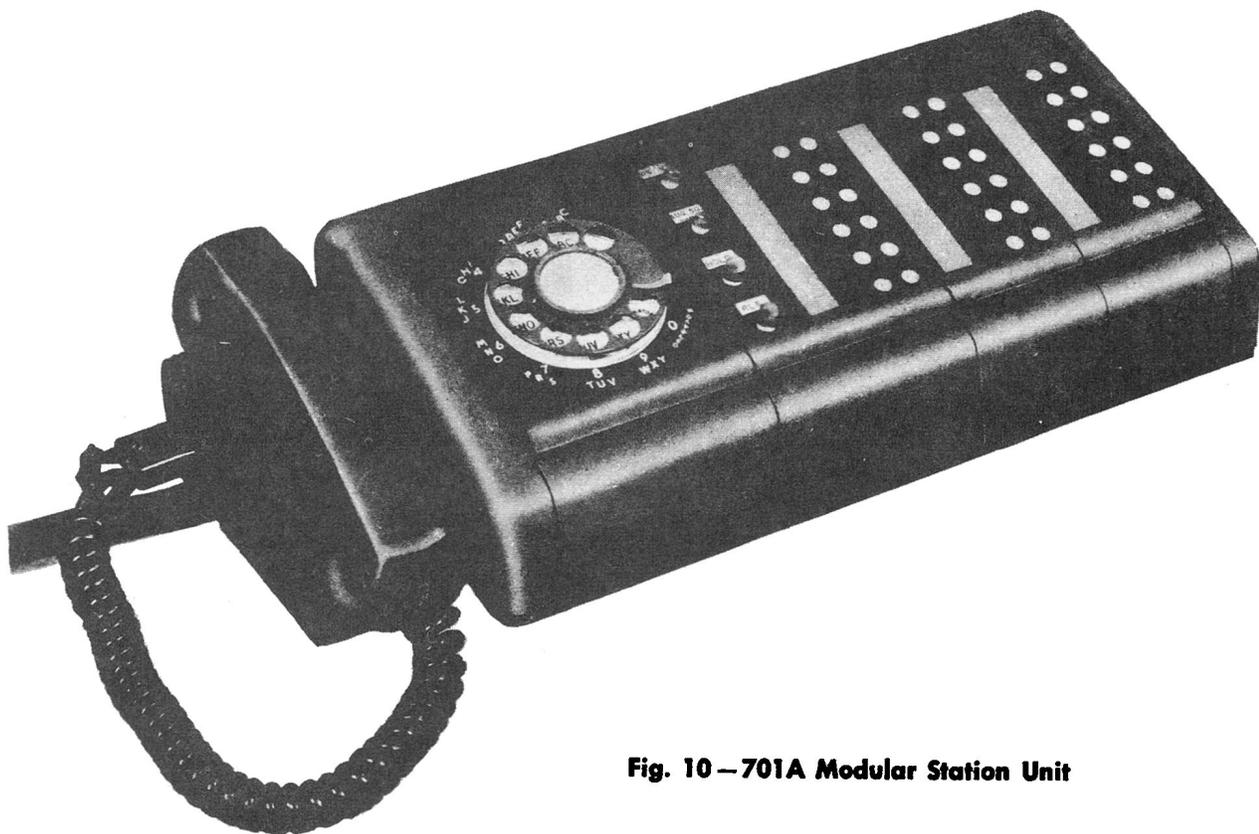

Fig. 10 - 701A Modular Station Unit
4.02 The 700A modular station unit consists essentially of a 751A apparatus unit, a 700D originating key, and one 701B supplementary key. The unit and keys are connected together, and enclosed in apparatus cases complete with a handset mounting and jack (Fig. 10). A 30-foot length of inside wiring cable, wired to the terminals, is a component part of the unit.